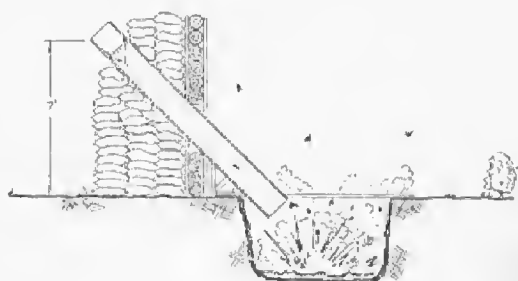

Figure 169. Small arms burning pit (trench).
17. Adequate improvised burning pits should be constructed within the area for disposal of small arms, pyrotechnics and like devices. (Figure 169)
other material suitable for containing the flying fragments. Vent holes must be provided for proper draft. If a burning pit cannot be constructed, a trench two feet deep and one foot wide may be used for an improvised burn pit. A burning pit diagram is shown in Figure 169.